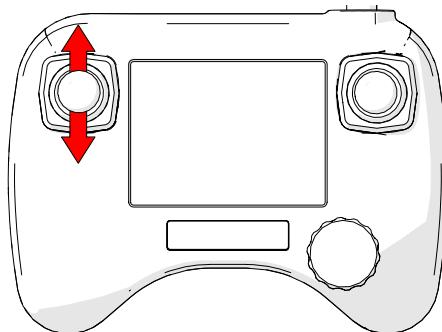
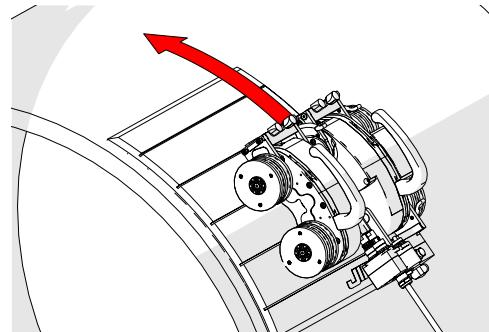
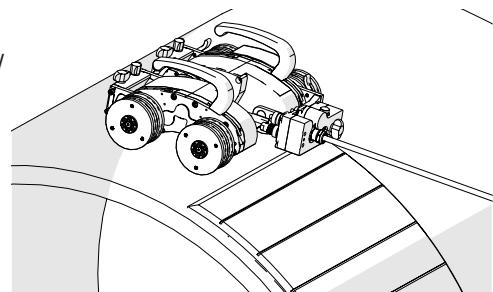

Fig. 47 - Drive the crawler
Fig. 48 - Drive crawler off the mat
Fig. 49 - Magnetized surface
- Ensure all four wheels of the crawler are held firmly against the installation/removal mat. While holding the crawler, use the Fwd/Rev joystick (Fig. 47) to carefully drive the crawler (Fig. 48) off the installation/removal mat and onto the inspection surface (Fig. 49).